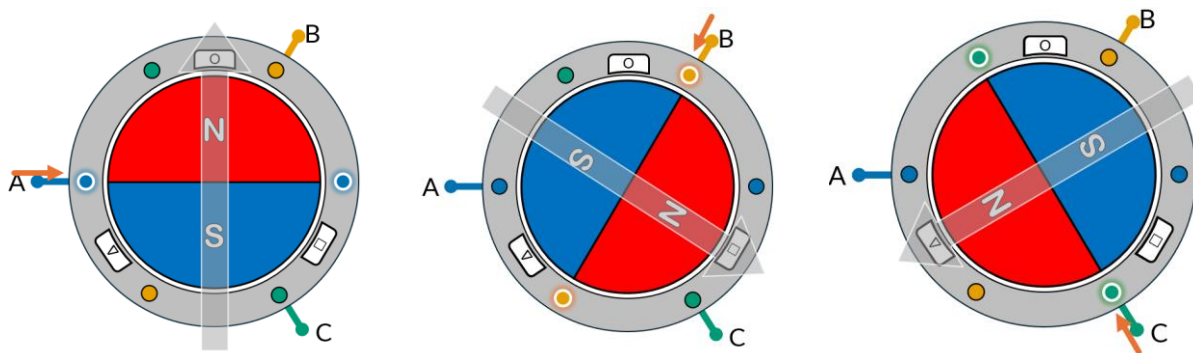

Figure 1. Magnet positions and magnetic fields when energizing a single coils with all 3 enabled
5. As noted in the concept reviews, the hall sensor outputs a 1 when they detect a north pole in the magnet close by. When energizing a coil, a magnetic field is generated. In this special case where 3 coils are enabled, 1 as high and 2 as low, the magnetic field generated is as shown with a white arrow in Figure 1, which would move the magnet into the positions shown in the image. Note that the figure has coils named A, B, and C, and the sensors are denoted with shapes: a circle, triangle and square.
6. Run **bldc_hall.py**, it will run for 30 seconds, look at the printed output, note what hall sensor goes high when each of the coils is activated. Note that the motor might feel like it changed and the print might happen a second later. It is expected. Based on that, where would you place sensor 1, 2 and 3 in Figure 1? Which one would be the circle, triangle and square?